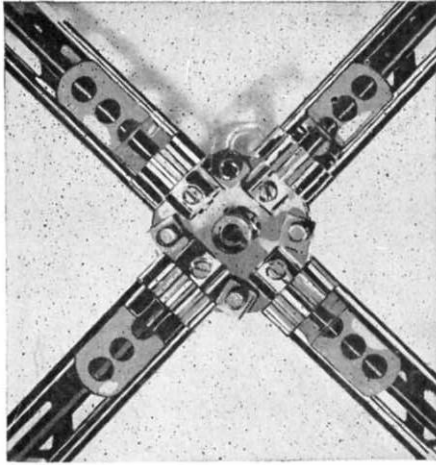

FIGURE 4
The detail of the driving mechanism is shown in Figure 4 and 5. Two (OG) 21 hole strip formed are fastened between two (BT) pierced discs. These (OG) serve as bearings for  $7\frac{1}{2}$ " axles to which are fastened P13B 12 tooth pinion gears. These gears revolve around the stationary crown gear and cause the horses to move up and down.